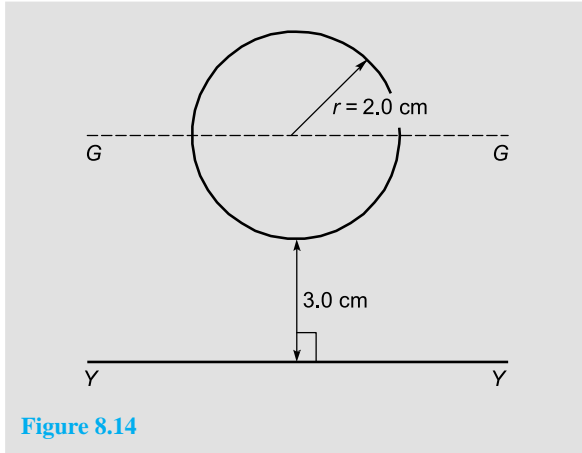

Figure 8.14
**Problem 9.** Determine the second moment of area and radius of gyration of the circle shown in Figure 8.14 about axis  $YY$ .
In Figure 8.14,